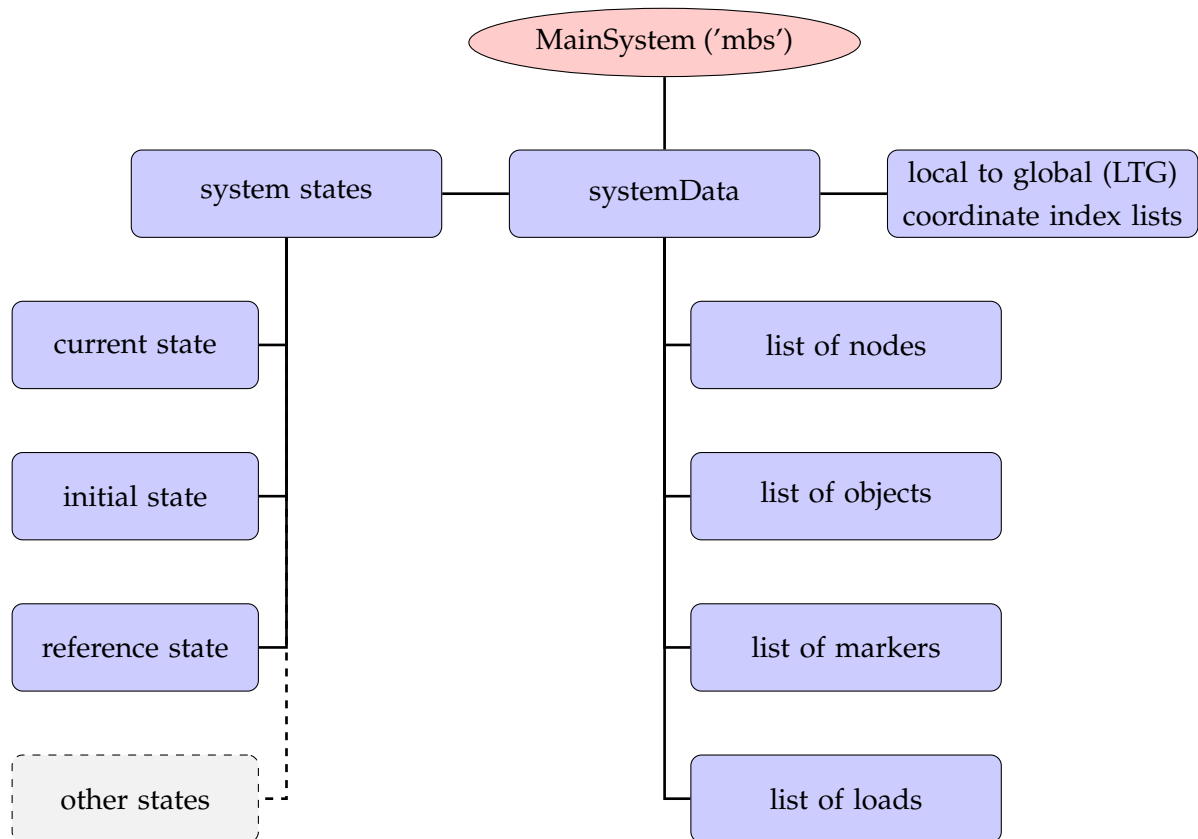

Figure 2.2: Overview of systemData, which connects items and states. Note that access to items is provided via functions in system.
- `mbs.systemData`: contains the initial, current, visualization, ... states of the system and holds the items, see Fig. 2.2